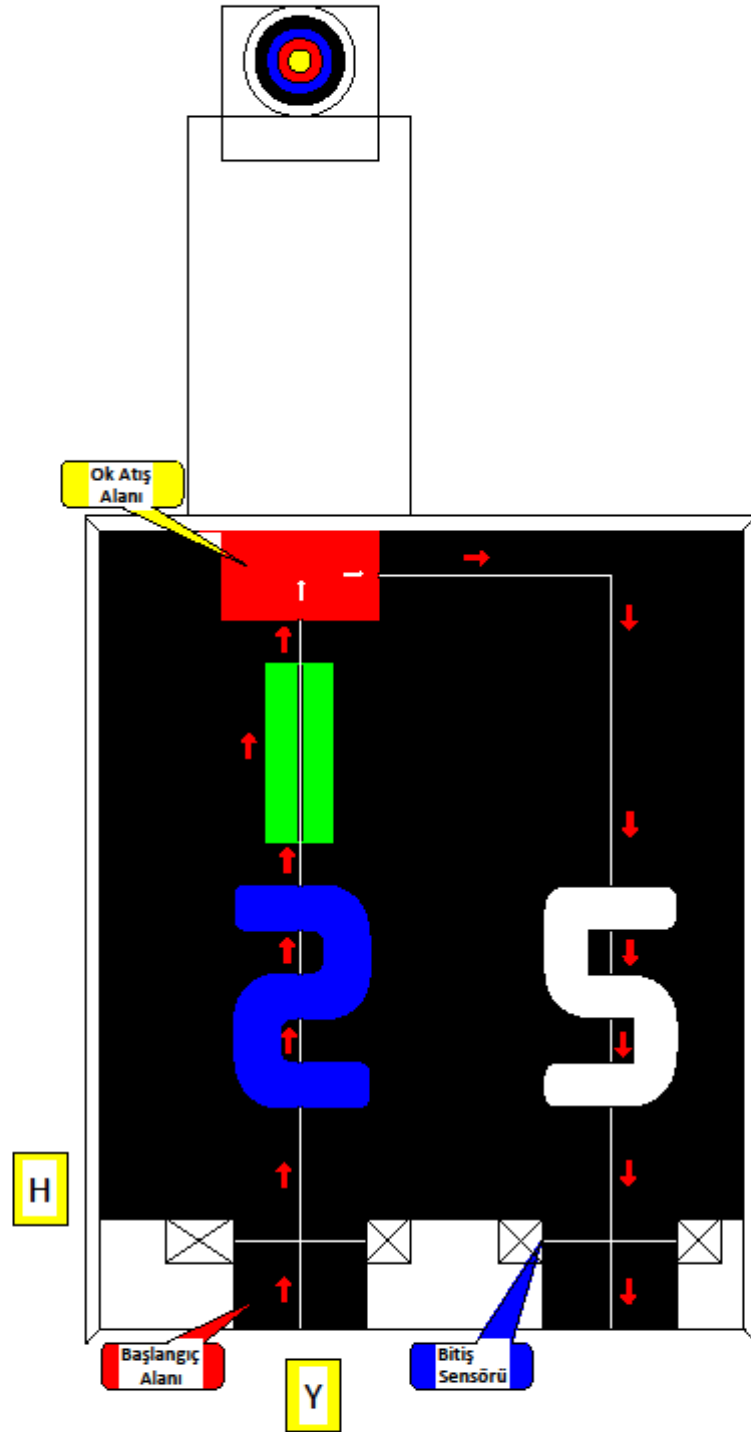

Figure-4: first round's route and Robot movements
- Each robot competes in turn, this order is determined by lot. The draw determines which robot will compete on which track (track A or track B) Figure-4
After the start gate is opened, the robot that starts and crosses the start line is awarded **10 points**. Figure-4, the robot that does not work within 10 seconds or does not work and does not cross the start line is considered to have used the 1st hand intervention right. If the robot does not cross the start line in every 10 seconds after the 1st manual intervention, it is considered to have intervened manually, and in the case of the 6th manual intervention, that is, if the robot does not cross the start line in the 60th second, the competition is terminated by the referee and only **100 points** are awarded to the robot. In case of manual intervention, if the robot crosses the start line, one **-5 point** is given as an error point.
- 2 tracks will be used for Round 1, Round 2 and Round 3 competitions (Track A and Track B) Figure-4